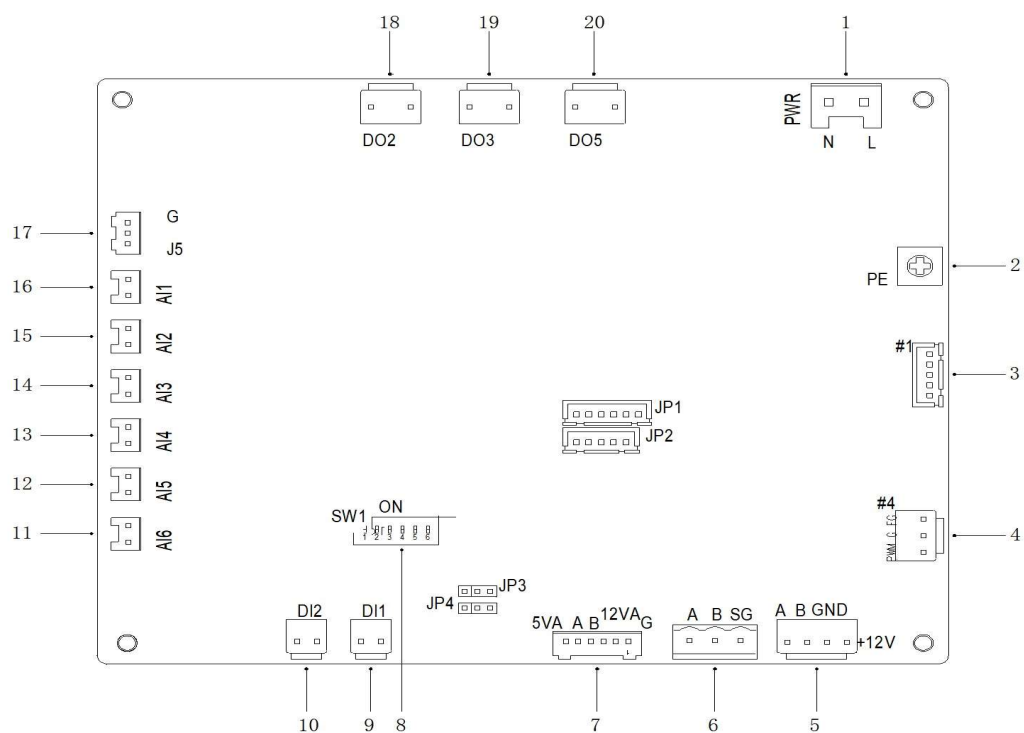

Figure 6-2
6.2.1 The external main control board is shown in Figure 6-2 below